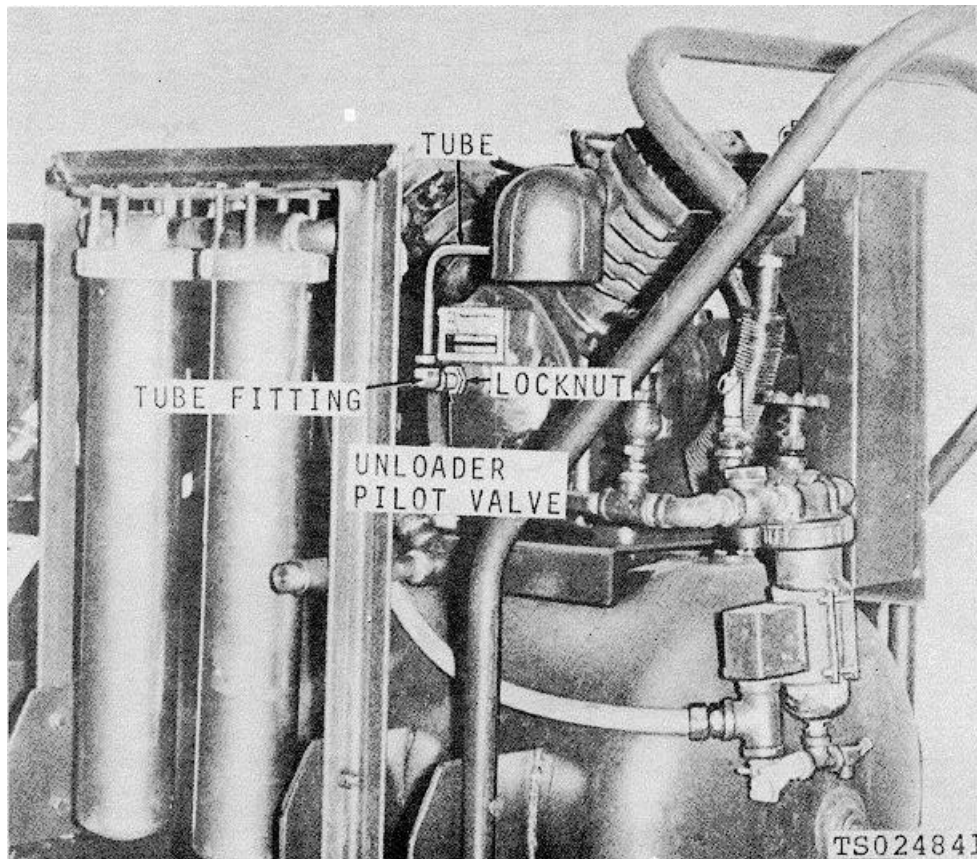

Figure 4-2. Pilot valve replacement.
(1) Disconnect tube (fig. 4-2).